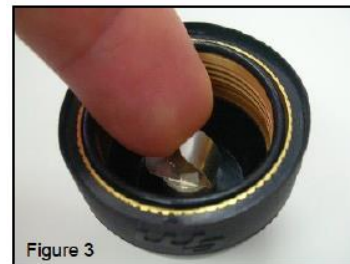

Figure 3
- b. Ensure O-ring groove as shown in Figure 3.
#### 4. Tuning and Installation (Figure 3):